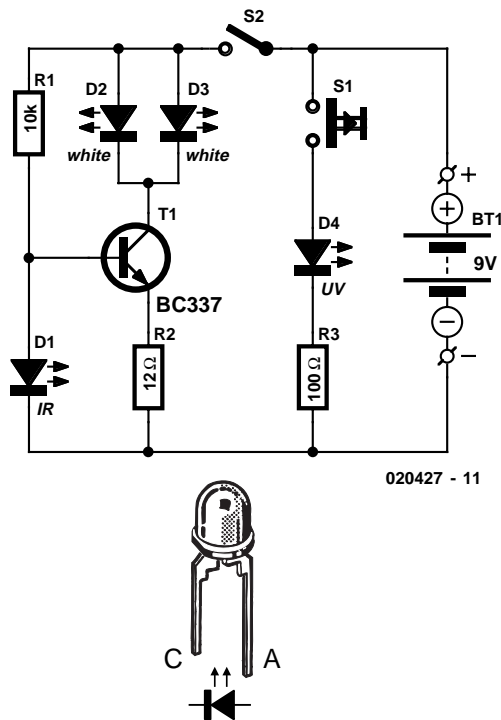

Figure 1. The circuit uses two super-bright white LEDs and a constant current source.
If you look at the  $I_D = f(V_{GS})$  graph in **Figure 1**, you'll notice that conduction starts at a gate-source voltage of 3.5 to 4 volts, while at 5 volts (i.e., TTL High level) some 15 A is allowed to flow through the drain-source junction. The graph is for a Philips BUK466-200A which can be describes as a 'typical' example of a power MOSFET.
LEDs are usually driven from a constant current source so that the LED brightness is not dependent on a varying supply voltage. The circuit here in **Figure 1** shows a constant-current source produced by transistor T1.
*tronics* annual CD-ROM or from the Adobe website, [www.adobe.com](http://www.adobe.com)). After opening the file, the two layouts will appear on the screen. Typically you will need only one of these layouts. First adjust the zoom size in Acrobat Reader so that the desired layout can be seen in its entirety in the window. Activate the *Graphics Select Tool* in the centre of the toolbar by clicking on it with the mouse. The cursor changes into a cross-hair pointer. We can now select one of the two layouts by positioning the mouse just outside a corner of the desired layout, pressing the left mouse button and selecting the entire layout while keeping the mouse button pressed. When you release the mouse button, a dashed outline becomes visible around the layout (**Figure 1**). You can now print the selected layout using Acrobat Reader or copy the layout to another program using the clipboard for further manipulation or printing.